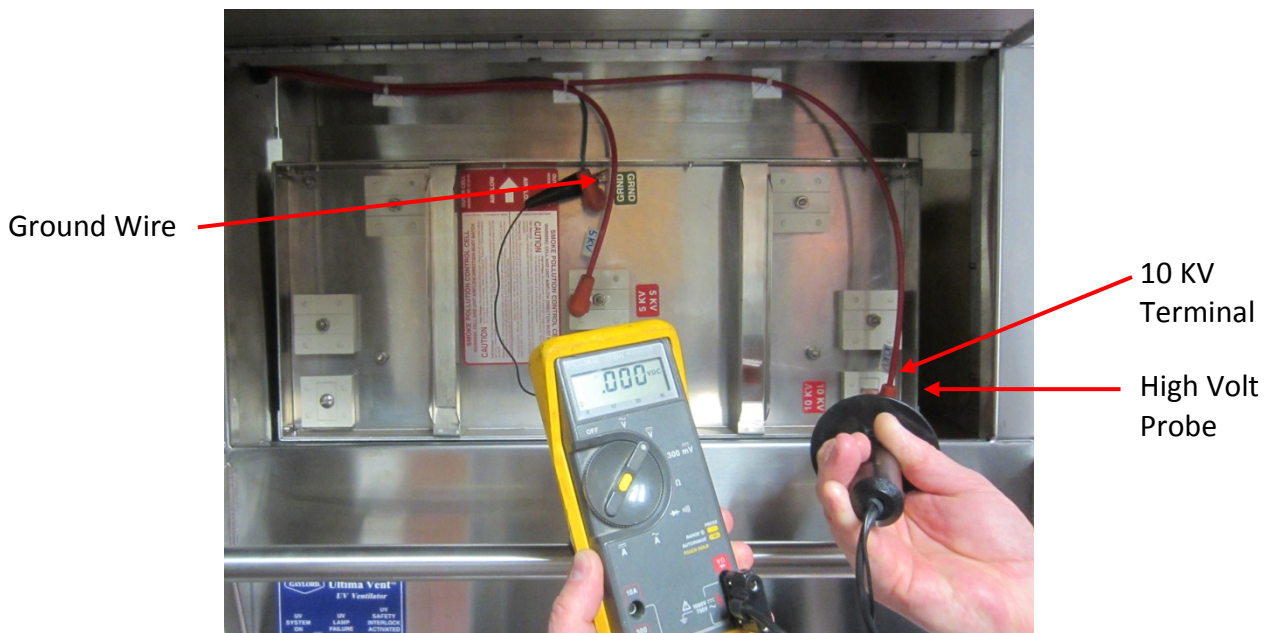

Figure 6-50-1
9. Hold the Plunger Safety Switch in the closed position (or have a second person hold it in). Now measure voltage from ground on the Cell to the 10 KV volt connection point (Refer to Figure 6-50-1). Voltage should be between 9,000 and 10,000 volts DC. If proper voltage is not obtained it indicates an Ionizing Wire is broken. Proceed to “Replacing Ionizing Wires” instructions on page 6-51.